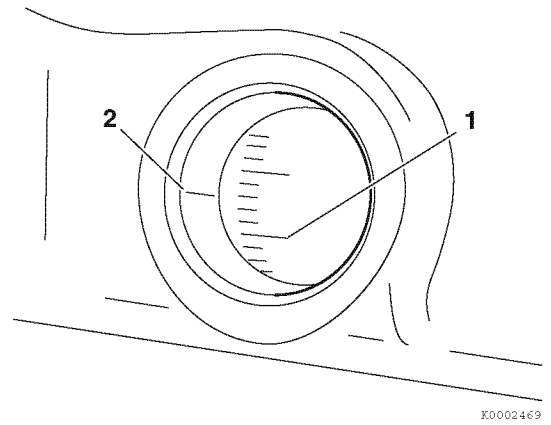

Figure 7-35
2. Determine if the timing is “advanced” or “retarded” by comparing the position of the target timing mark on the flywheel grid (**Figure 7-35, (1)**) with the timing mark on the flywheel housing or back plate (**Figure 7-35, (2)**).